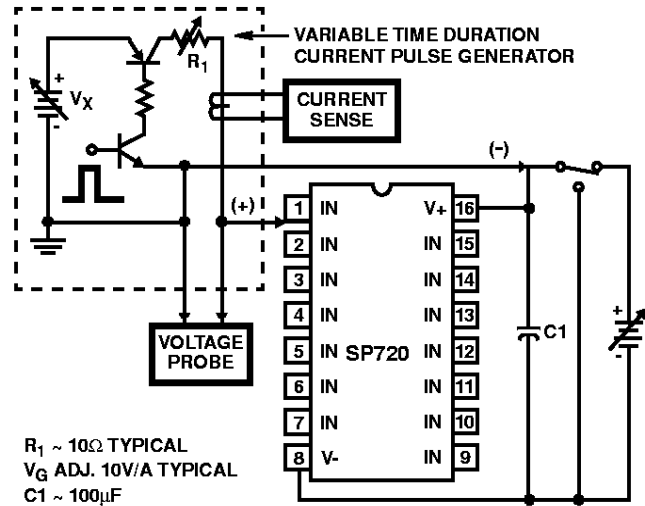
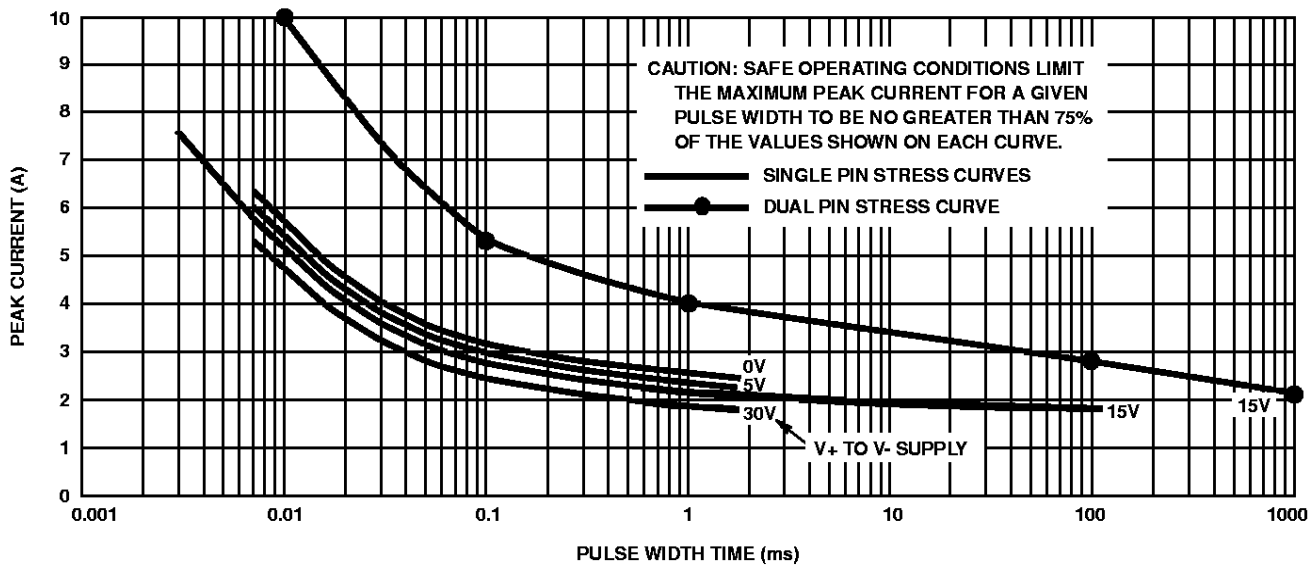

FIGURE 2. TYPICAL SP720 PEAK CURRENT TEST CIRCUIT WITH A VARIABLE PULSE WIDTH INPUT
FIGURE 3. TYPICAL SINGLE PULSE PEAK CURRENT CURVES SHOWING THE MEASURED POINT OF OVER-STRESS IN AMPERES vs PULSE WIDTH TIME IN MILLISECONDS, (T_A = 25°C)
Input Peak Current, I_{IN} (Refer to Figure 3) ± 2 A, 100 μ s
- Refer to the Figure 3 graph for definitions of equivalent "SCR ON Threshold" and "SCR ON Resistance". These characteristics are given here for thumb-rule information to determine peak current and dissipation under EOS conditions.
The test circuit shown in Figure 2 provides a positive pulse input. For a negative pulse input, the (-) current pulse input goes to an SP720 'IN' input pin and the (+) current pulse input goes to the SP720 V- pin. The V+ to V- supply of the SP720 must be allowed to float. (i.e. It is not tied to the ground reference of the current pulse generator.) Figure 3 shows the point of over-stress as defined by increased leakage in excess of the data sheet published limits.
The maximum peak input current capability is dependent on the V+ to V- voltage supply level, improving as the supply voltage is reduced. Values of 0, 5, 15 and 30 voltages are shown. The safe operating range of the transient peak current should be limited to no more than 75% of the measured over-stress level for any given pulse width as shown in Figure 3.
When adjacent input pins are paralleled, the sustained peak current capability is increased to nearly twice that of a single pin. For comparison, tests were run using dual pin combinations 1+2, 3+4, 5+6, 7+9, 10+11, 12+13 and 14+15. The over-stress curve is shown in Figure 3 for a 15V supply condition. The dual pins are capable of 10A peak current for a 10μs pulse and 4A peak current for a 1ms pulse. The complete curve for single pulse peak current vs. pulse width time ranging up to 1 second is shown in Figure 3.